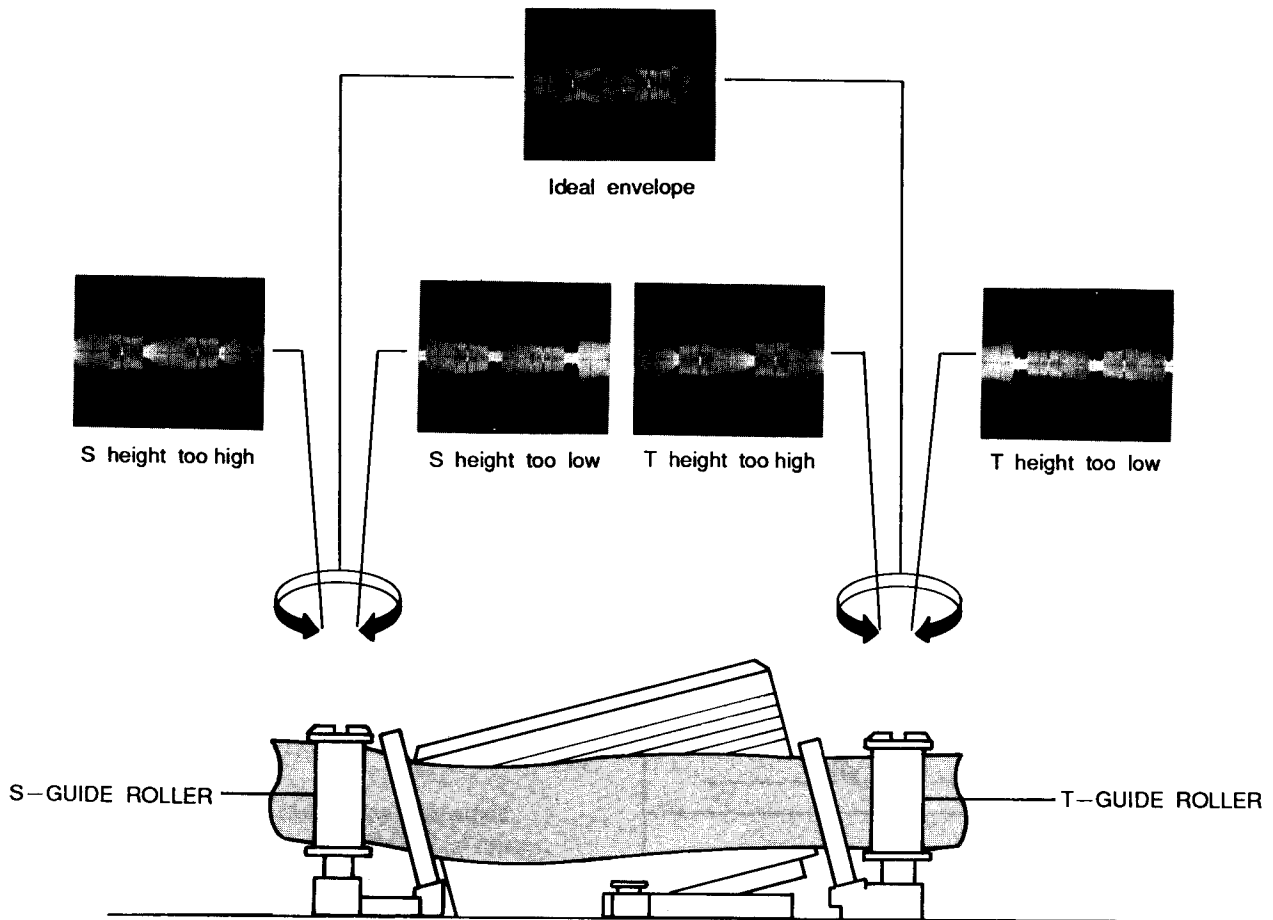

Fig. 13 S, T-Guide Roller Height Adjustments
9. Turn the guide roller heads with a flat head () screw driver to obtain flat video RF envelope as shown in Fig. 13.